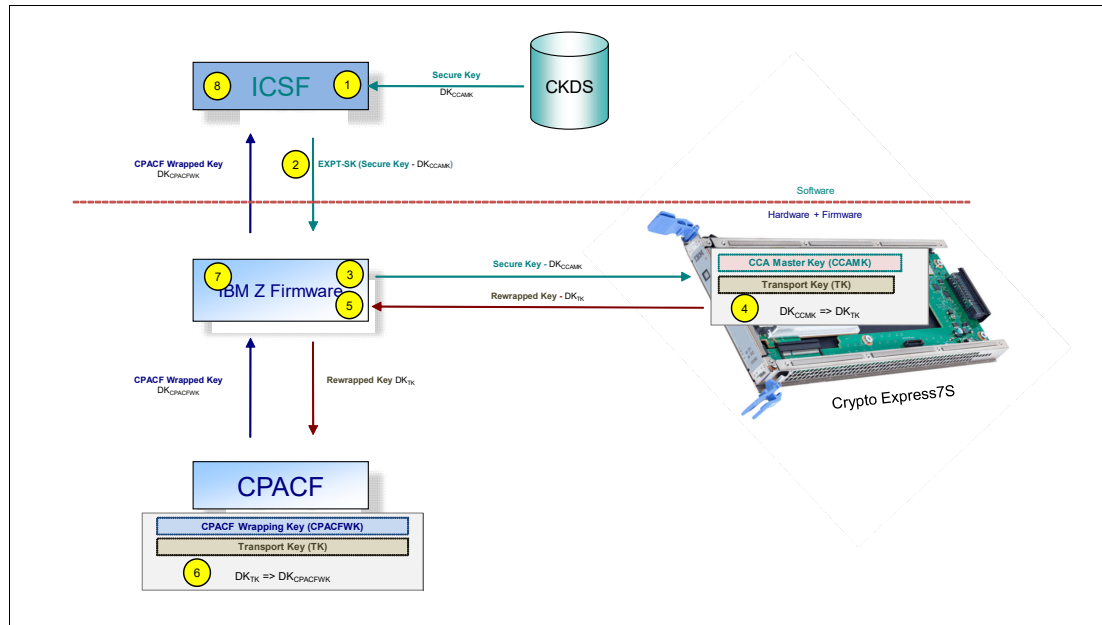

Figure 6-5 CPACF key wrapping for Crypto Express7S and Crypto Express6S
Wrapping keys are generated during the clear reset each time an LPAR is activated or reset. No customizable option is available at Support Element (SE) or Hardware Management Console (HMC) that permits or avoids the wrapping key generation. This function flow for the Crypto Express7S and Crypto Express6S adapters is shown in Figure 6-5.
A new segment in the profiles of the CSFKEYS class in IBM RACF restricts which secure keys can be used as protected keys. By default, all secure keys are considered not eligible to be used as protected keys. The process that is shown in Figure 6-5 on page 228 considers a secure key as the source of a protected key.